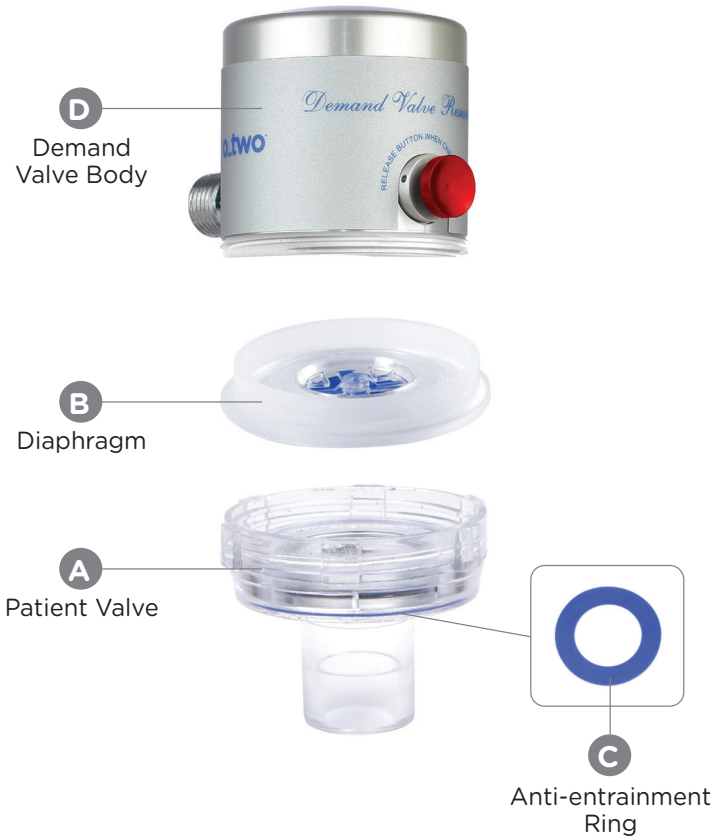

Fig. 1
4. Unscrew patient valve (A) from the unit body being careful to ensure that the diaphragm (B) is retained (Fig1).
5. Remove the diaphragm and anti-entrainment ring (C) from the patient valve swivel housing and wash these components thoroughly in a mild soap solution;
8. The demand valve body (D) and gas supply hose can be wiped over with a soft cloth and mild soap solution.